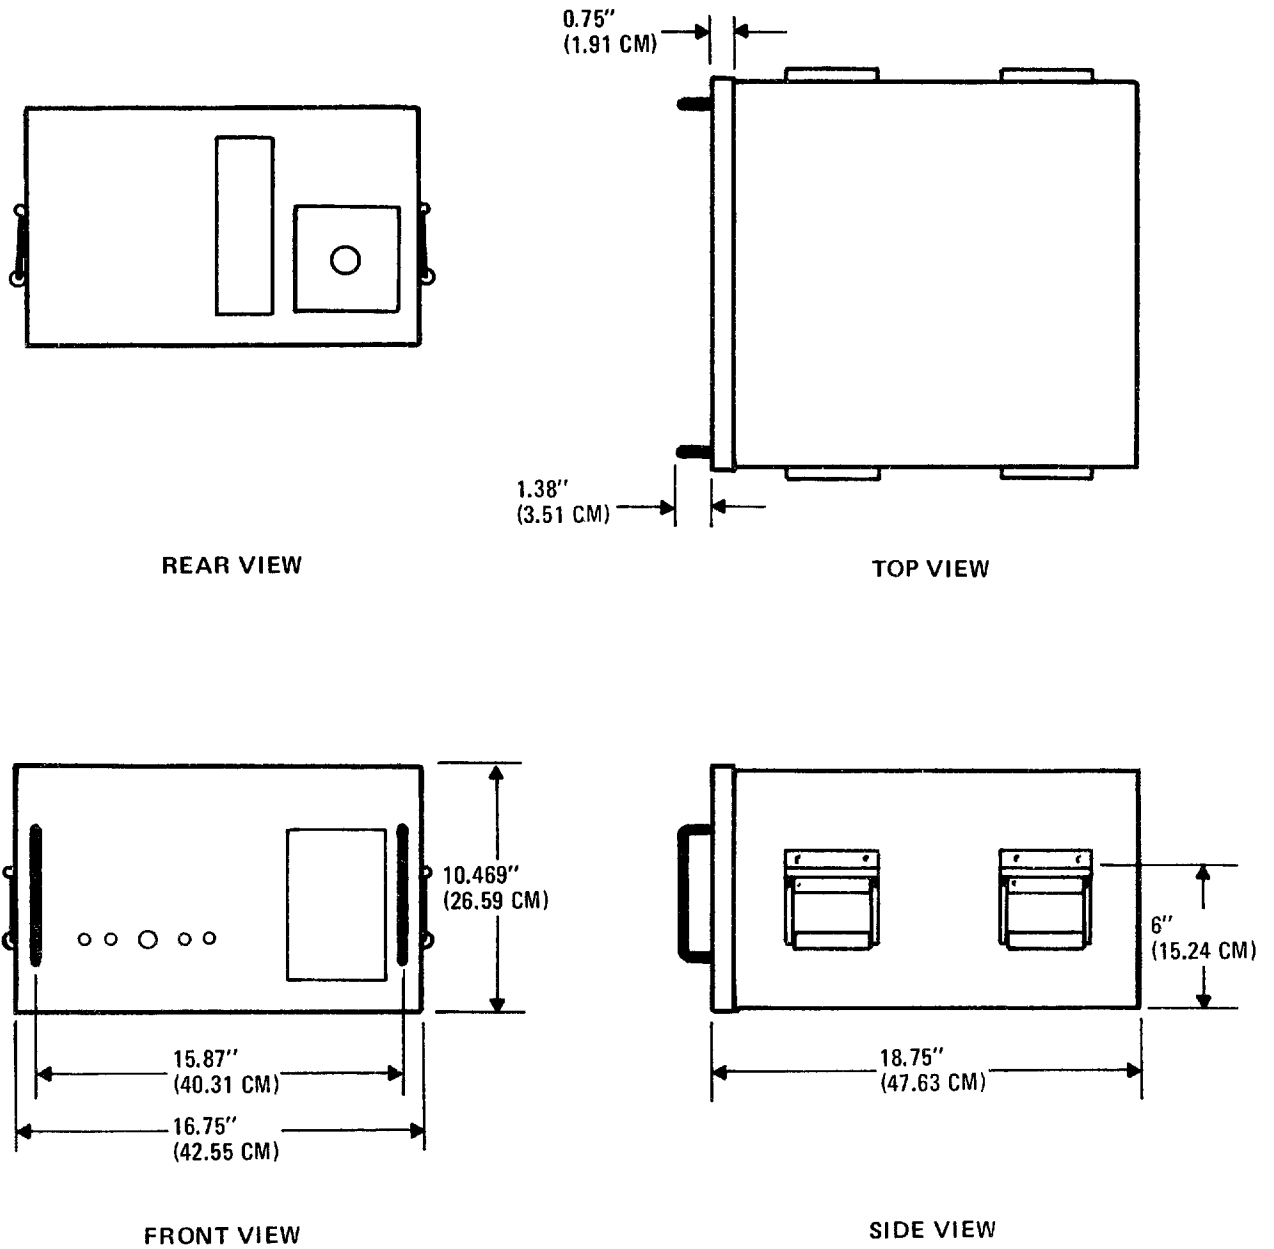

Figure 2-4. Dimensions
2-5. 1KW POWER SUPPLY MOUNTING INSTRUCTIONS. The exact method of mounting the 1KW Power Supply depends upon the type of installation selected. Refer to figure 2-4 for 1KW Power Supply dimensions. Make sure that the mounting surface allows adequate room for the 1KW Power Supply and has proper clearance for cable interconnection.
a. Refer to figure 2-4 for the 1KW Power Supply dimensions. Make sure that the mounting surface allows adequate room for ventilation intakes and outlets, and has proper clearance for cable interconnection.